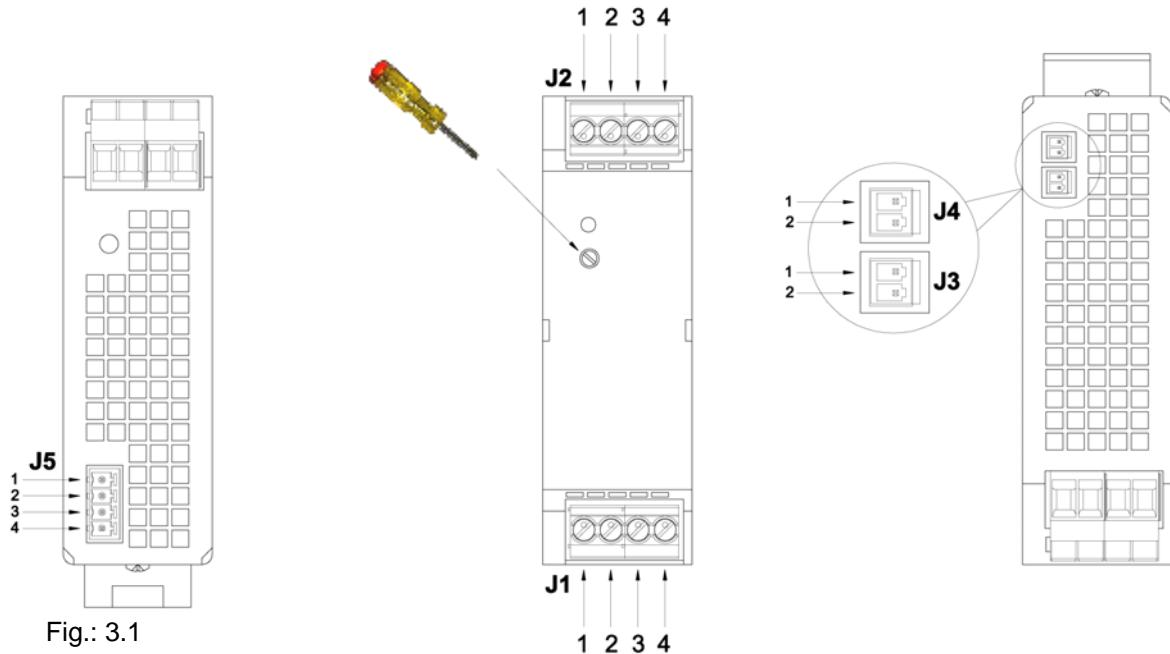

Fig.: 3.1
Afterwards the connection between the TSP (TSP xxx-124) and Input 1 (see Fig 3.1; +Vin and -Vin; J1 pin 1 & pin 2 and chapter 2.2.1) as well as Input 2 (see Fig 3.1; +Vin and -Vin; J1 pin 3 & pin 4 and chapter 2.2.1) and the remote sensing (see Fig. 3.1; J3 & J4) between these two devices and the TSP-REM360 or TSP-REM600 using the wire supplied with the TSP-REM360 or TSP-REM600 modules can be made (see Fig. 2.1 and Fig. 3.1, J4). Now the load can be connected to DC-Out (see Fig. 3.1, J2 pin 1, pin 2, pin 3 & pin 4 & chapter 2.2.2). The output voltage on the TSP-REM360 or TSP-REM600 can be adjusted between 24 and 27Vdc using the potentiometer on the TSP-REM360 or TSP-REM600 (see Fig 3.1).
2.2.1 Input 1 and Input 2 (Fig. 3.1 → Connector J1, pin 1, pin 2, pin 3 & pin 4):
2.2.2 Output (Fig. 3.1 → Connector J2, pin 1, pin 2, pin 3 & pin 4):
At the time of delivery, the output voltage is 24VDC. The output voltage can be set (using an insulated screwdriver) from 24 to 27VDC on the potentiometer (see Fig. 3.1).
2.2.3 Signalling (Fig. 3.1 → Connector J5, pin 1 & pin 2):
The DC OK outputs are for enabling monitoring of the functions of the two TSP power supplies. The floating DC OK signal contacts (see Fig. 3.1 → Connector J5, pin 1 & pin 2) is monitoring if the output voltage of the TSP power supplies, which are connected to the TSP-REM360 Input 1 and Input 2 or TSP-REM600 Input 1 and Input 2, is present. If one of the devices is disconnected or damaged, e.g. in the event of a power supplies internal short circuit, the alarm is generated. The contact on the relay will switch off (relay contact → open). If both TSP power supplies provide at least an output voltage of 21.5Vdc the relay contact is closed and signalise that both power supplies are in operation. If the output voltage of the TSP-REM360 or TSP-REM600 is present the relay contact (30Vdc / 1A) is closed. It is detected by measuring the TSP-REM360 or TSP-REM600 input voltage at Input 1 as well as at Input 2.
The TSP-REM360 as well as the TSP-REM600 devices provides an external remote on/off function by use of pin 3 & pin 4 at connector J5 (see Fig. 3.1). To switch off the power supply and TSP-REM360 or power suply and TSP-REM600 a connection between Connector J5 pin 3 and Connector J5, pin 4 by use of a switch or similar has to be made. At open connection between J5 pin 3 and J5 pin 4 the device is providing the adjusted output voltage.
Remote ON/OFF	see Fig. 3.1 2 pin connector (see Fig. 3.1; J5 pin 3 & pin 4) connect via a switch → Contact closed = Device off